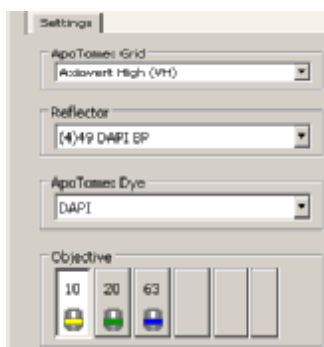
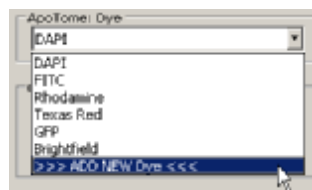

Figure 6
Figure 7
2. Using the calibration wizard settings (Figure 6), identify which grid type has been inserted into the ApoTome. Set the reflector to the relevant position for the particular fluorochrome, set the ApoTome dye to the same fluorochrome and select an objective. Click *Next* to continue. Additional fluorochromes can be added as in Figure 7, if required.